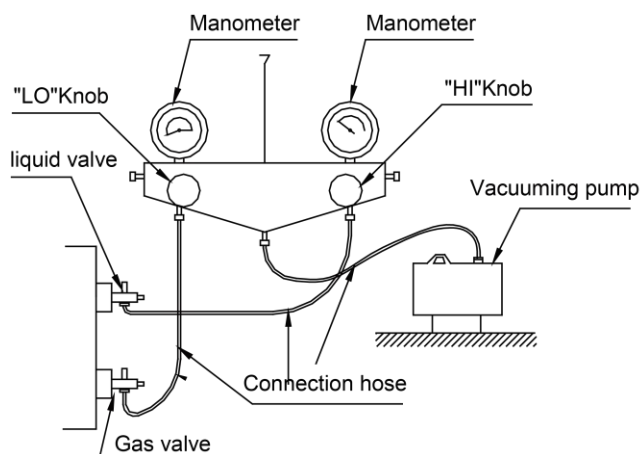

Fig.4.4.1
- (1) Confirm outdoor liquid and gas valves are closed. Air purging from the nozzle located on liquid and gas valves by vacuum pump. See Fig.4.4.1.